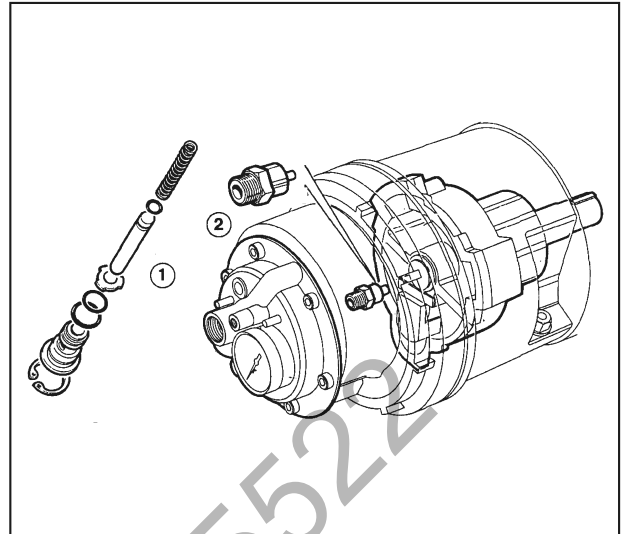

Fig 2.2 - Minimum Pressure and Safety Valve
2.5 Minimum Pressure Valve (Fig. 2.2)
2.6 Safety Valve (Fig. 2.2)